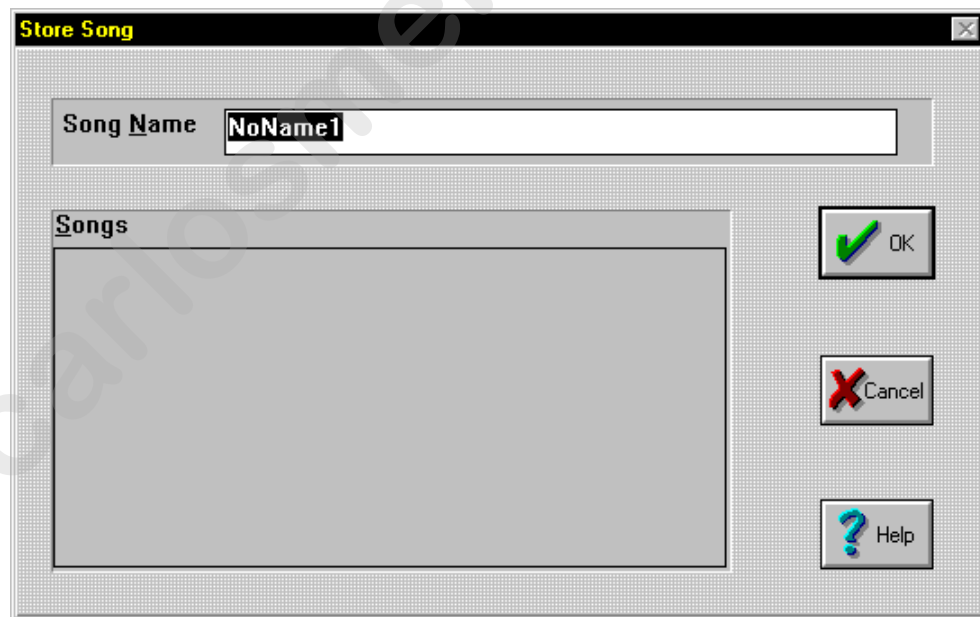

Figure 7.17. Store Song Dialogue Box
- Click **Yes** to save the current Song or **No** to discard the changes and open a new Song. If **Yes** is chosen, the **Store Song** dialog box will appear. Refer to Figure 7.17.
2. Press the <STORE> key in the MEMORY group (Figure 7.15). This will bring up the **Store Song** dialogue box. Refer to Figure 7.17. Alternately, select **Store** from the **Memory** drop-down menu.